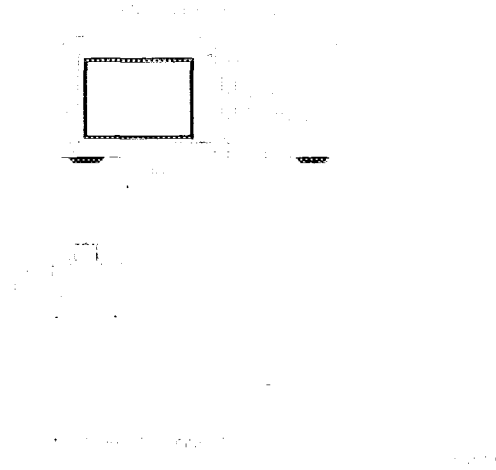

Figure 6-33. Source and Receiver Harmonics Test Setup
- 18** Connect the equipment as shown in Figure 6-33.